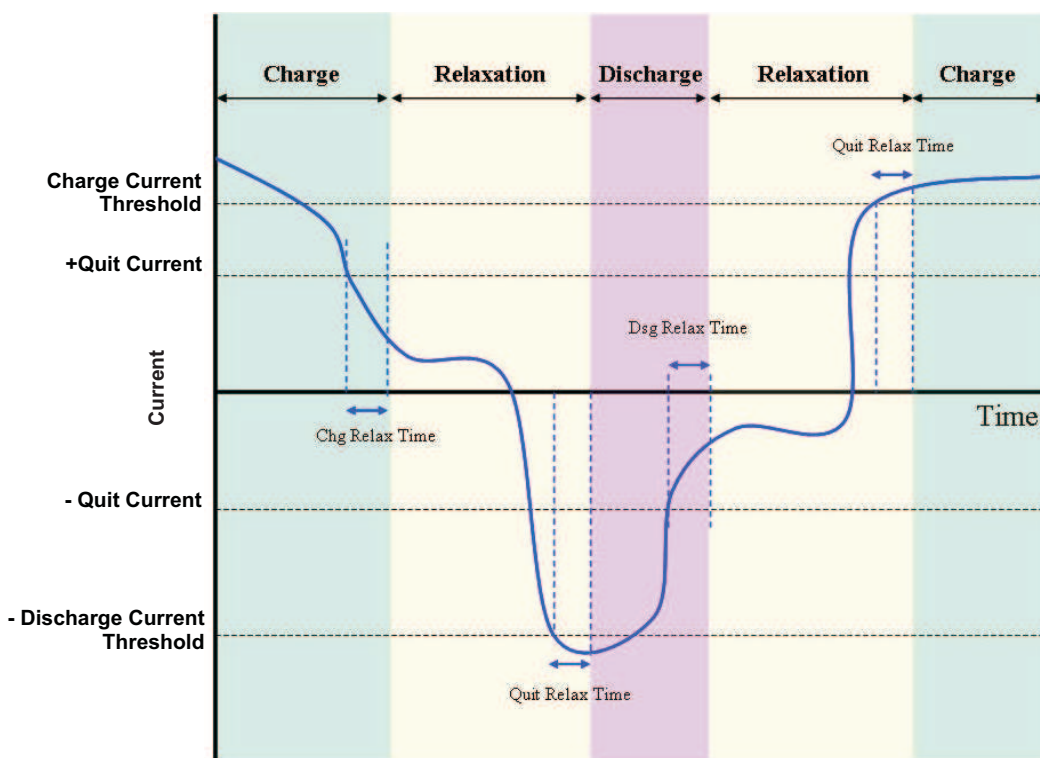

Figure 1. Algorithm Operation Mode Changes With Varying Battery Current
Figure 1 illustrates charge, discharge, and relaxation modes of the battery. The times and current thresholds that are noted in the graph are values that are programmed by the user in Flash memory. As seen in Figure 1, relaxation starts after *Chg Relax Time* or *Dsg Relax Time* has elapsed after the pack current measured by the ADC is within $\pm \text{Quit Current}$. The relaxation ends after *Quit Relax Time* elapses following a pack current detected that exceeds either *Charge Current Threshold* or *Discharge Current Threshold*.
- Relaxation mode: the state of the battery when the current is below user-defined *quit current* levels and after a user-defined minimum charge relax time (see Figure 1)